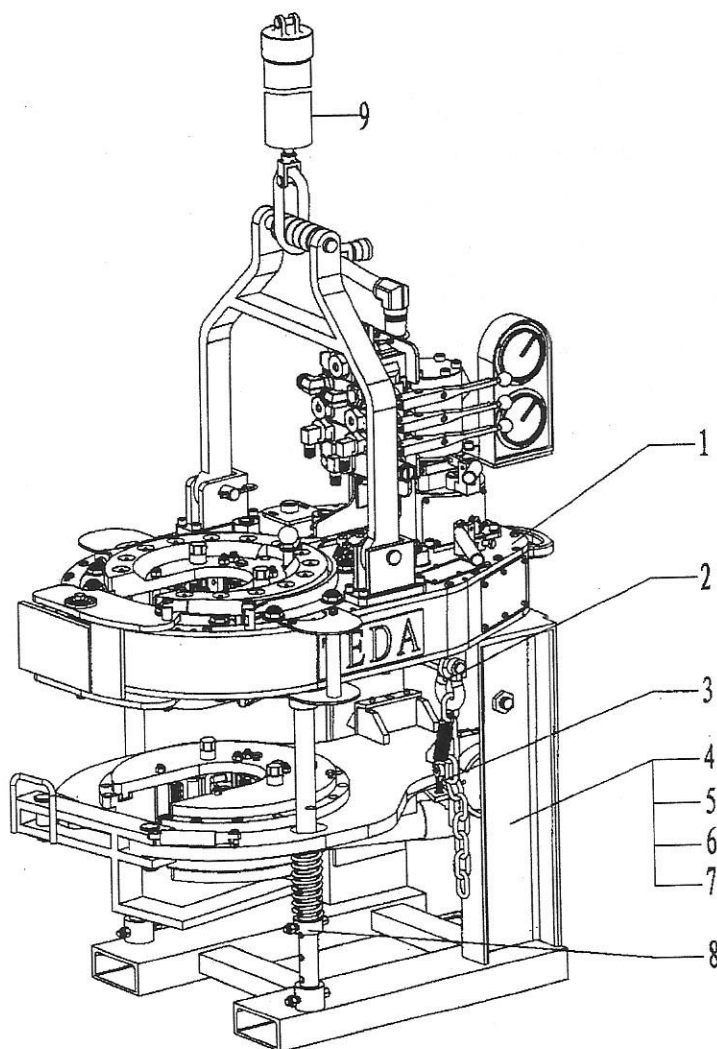

Fig .4
1. General assembly (Fig 4, Table 1)
1.General assembly (Fig 4, Table 1)